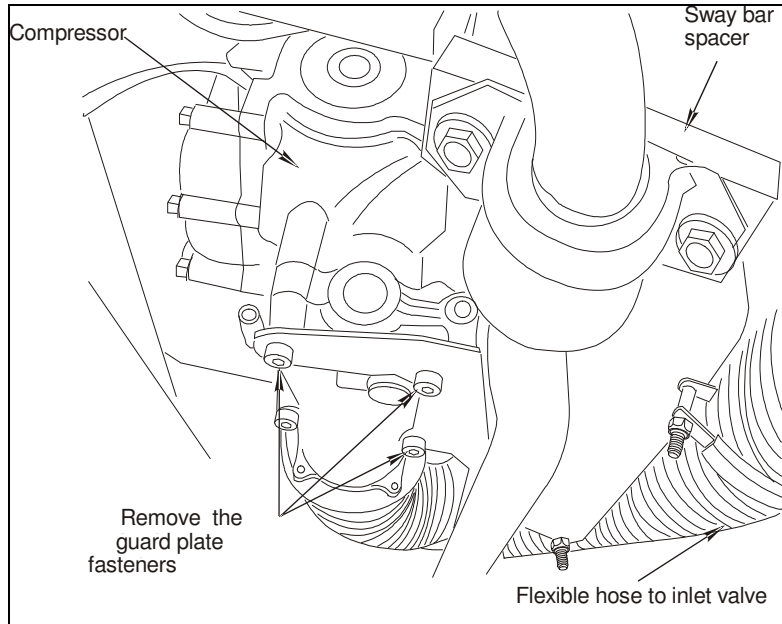

Fig 1 Guard plate installed
12. Install remaining O-ring and install inlet valve using 1 cap screw (1540530) provided in location where guard plate is not installed. See fig 1
13. Install the intake guard plate using the three remaining bolts (1540530) provided (Fig 1). Position it so that the short end of the hose will attach to the intake and the long end to the remote filter. Tighten the inlet valve bolts and secure the hose with the clamps.